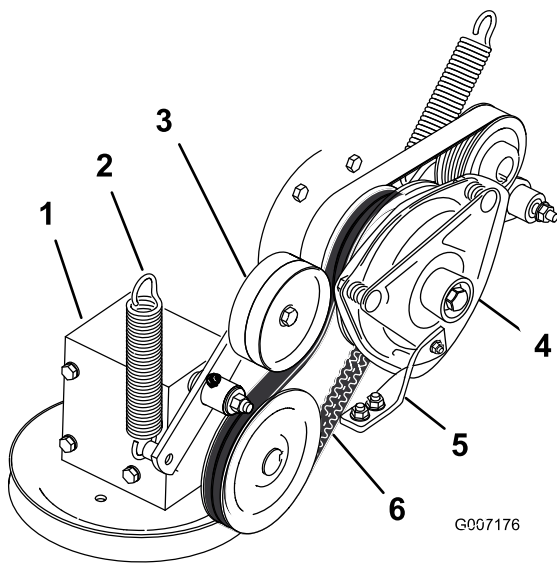

Figure 70
4. Remove the spring from the idler arm (Figure 70).
7. Install the PTO drive belt around the clutch pulley and the gearbox pulley (Figure 70).
9. Install the spring to the idler arm (Figure 70).